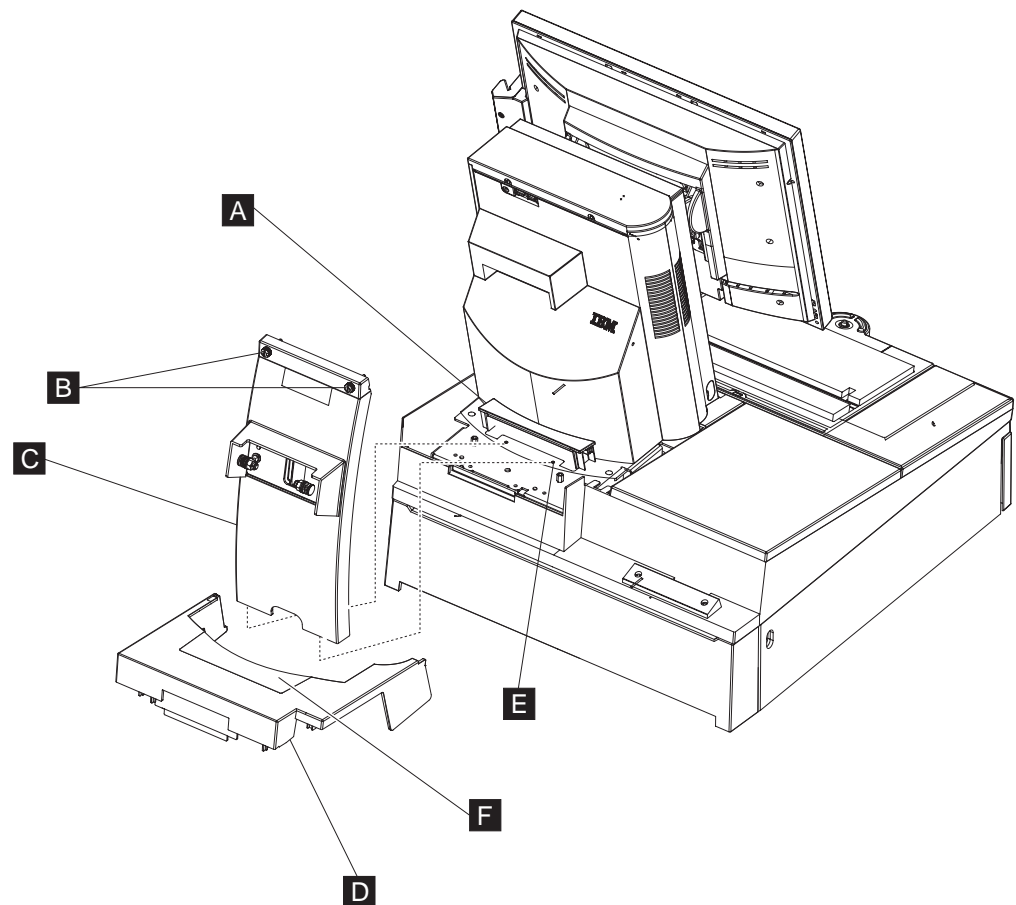

Figure 79. 4820 SurePoint Solution installation
2. Remove the rear filler panel, **D** in Figure 79.
4. Remove the small filler panel **F** from the rear filler panel, as shown in Figure 79.
5. Secure the 4820 bracket **C** with the two screws **E** in Figure 79.
12. Install the small filler panel between 4820 bracket and rear cover **A** in Figure 79 on page 115.
13. Attach 4820 bracket to the top of the system unit with thumbscrews **B** in Figure 79 on page 115.